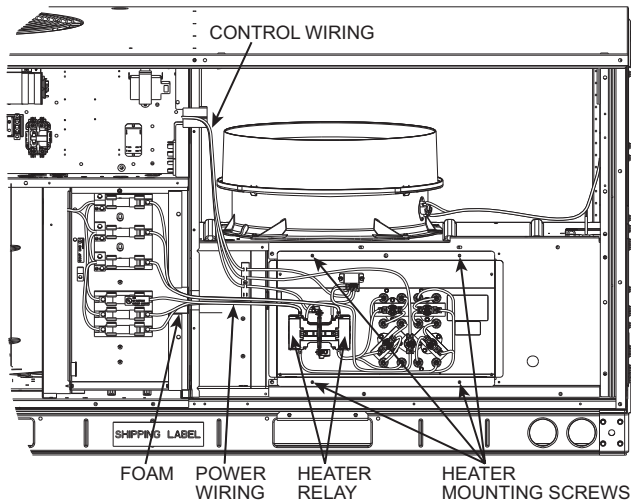
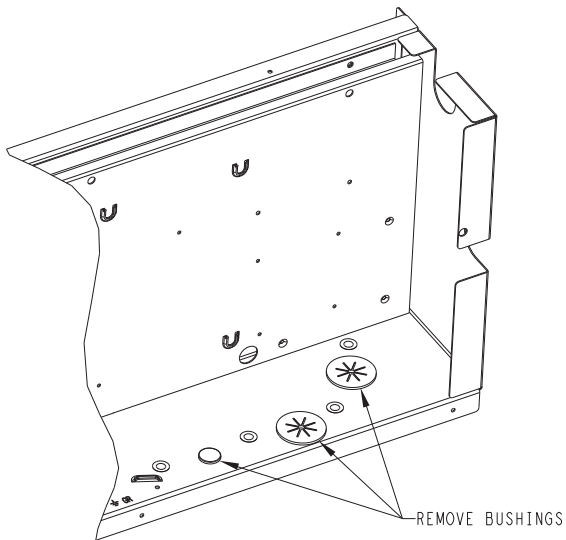
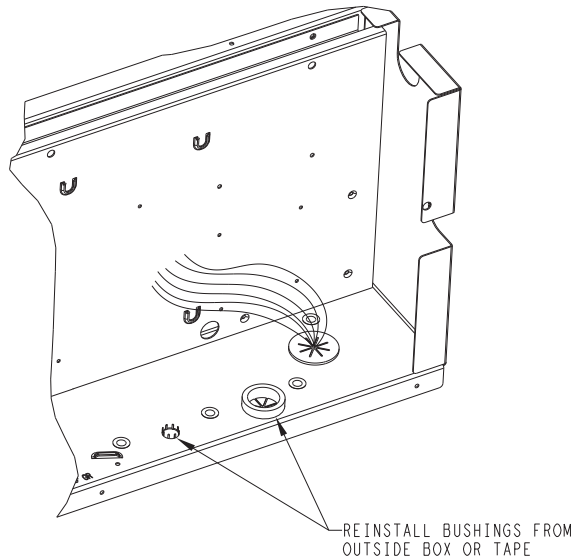
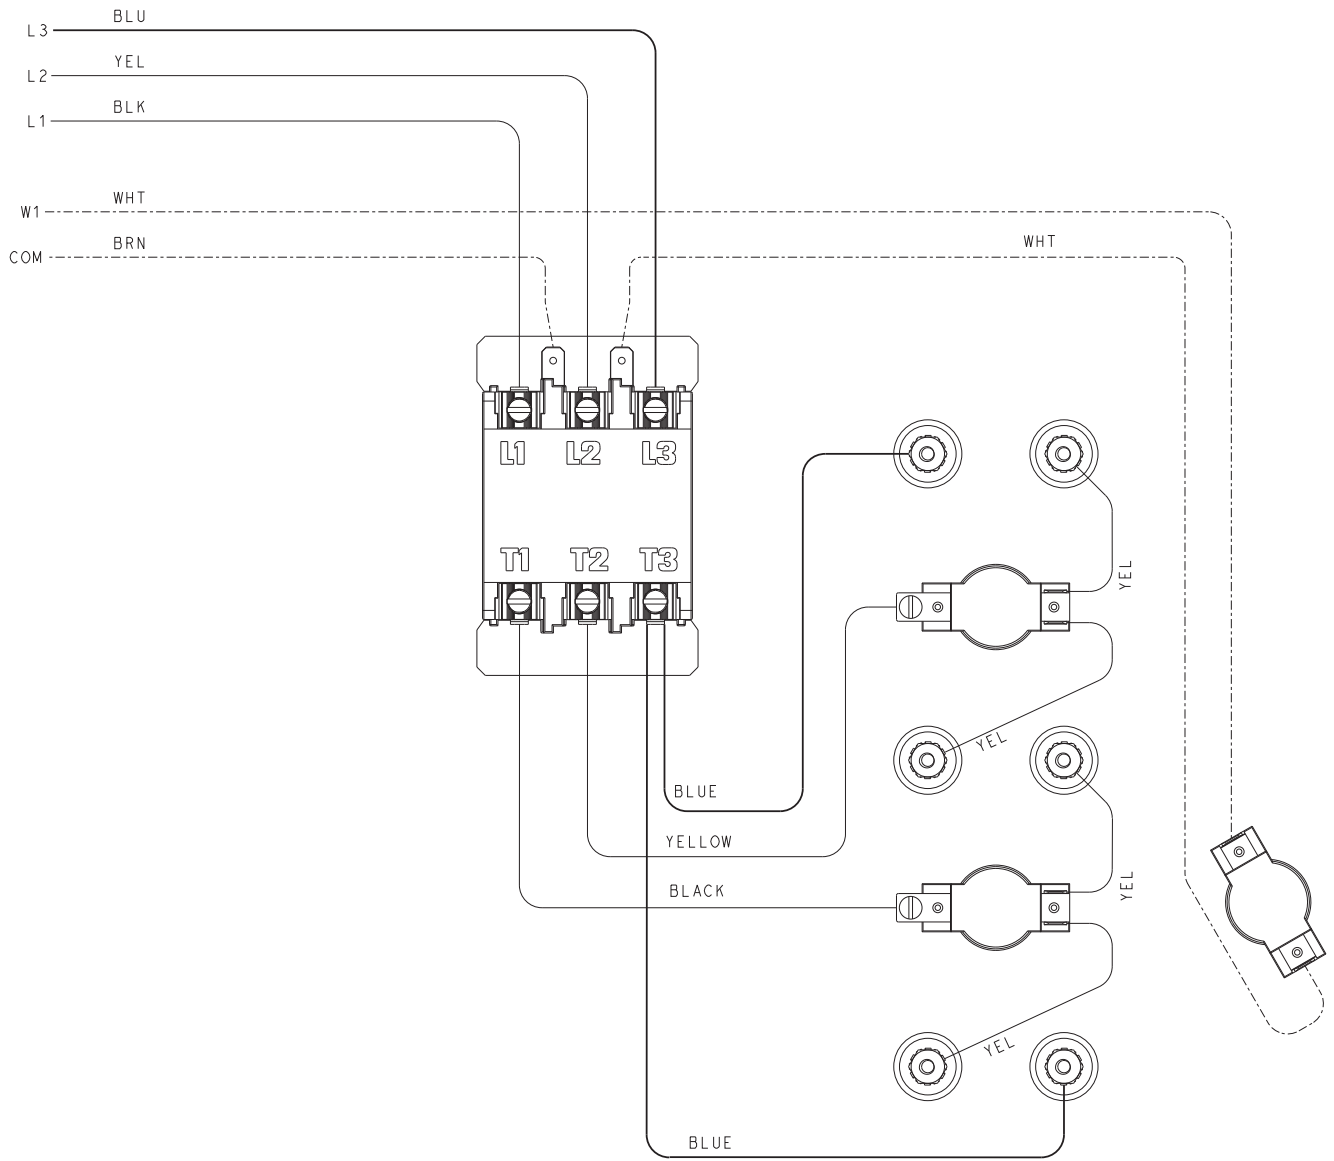

Fig. 3 — Typical Single Point Kit Installation
Fig. 7 — Control Box - Bushings to Remove
Fig. 8 — Bushings Replaced from Outside Control Box
Fig. 14 — Typical 3-Phase Wiring Installed
6. Install the electric heater module and connect heater power conductors to single point box or main unit control box per appropriate connections figure. (See Appendix A on page 16.) See Fig. 3 for typical installation.
7. All bushings in the area of the control box where the single point box (SPB) mounts, must be removed prior to securing the SPB to the control box. (See Fig. 7.) Also, for units installed in the snow belt, all unplugged holes in the bottom of the control box which are not used must be plugged before installing the SPB. Use foil tape or reinstall the bushings from the outside of the control box prior to securing the SPB. (See Fig. 8.)
8. Remove the single point box cover. Secure single point box to the underside of the control box with the 2 screws provided. (See Fig. 3.) Re-install bushing on the SPB tap conductors. (See Fig. 8.)
5. Route power wires from heater module through the foam bushing in the center partition and into the single point box. (See Fig. 3.) Connect to terminal block or fuse blocks per schematics in Appendix A or B. See Tables at beginning of each Appendix to identify the appropriate figure. All heaters are single bank heaters except CRHEATER327A00, 329A00-332A00, 337A00-338A00, and 341A00 which are dual bank heaters. These heaters will be wired as two heaters (i.e., 6 leads). Fusing is shown pictorially on the unit wiring schematic label. See Fig. 14 and 15.